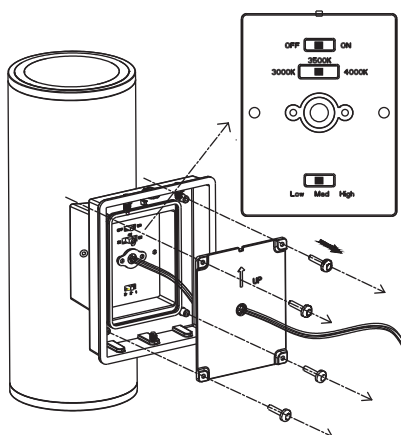

fig. 2
2. Remove the four screw and open the back cover to select desired settings. See setting guidance on next page. (Figure 2)